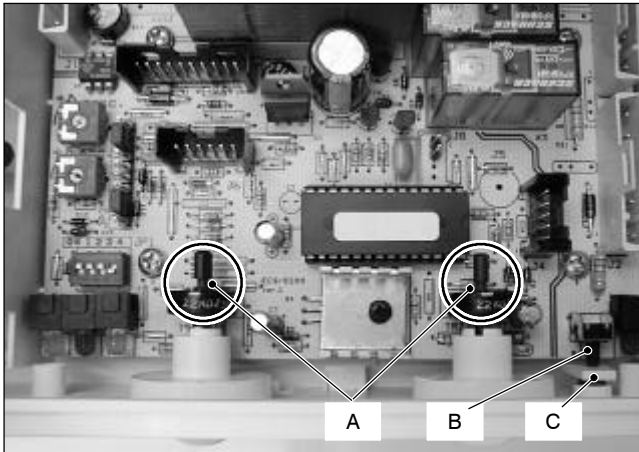

Fig. 39
- 8 Insert the spindles in the control panel knobs until the notch *A* (Fig. 39) reaches the potentiometer edge. It is not necessary to force them in the knob.
- 9 While tightening the screws that fix the Electronic control p.c.b. on the control panel, keep the p.c.b. towards the control panel fascia making sure of the contact between the boiler reset button *B* and the tab *C* (Fig. 39).